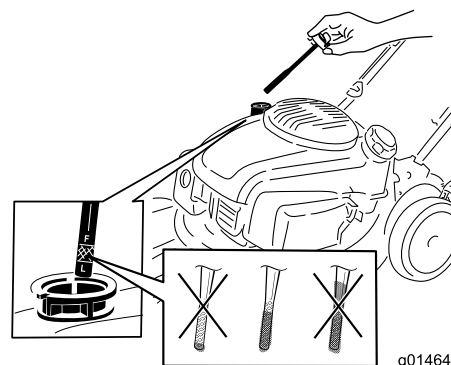

Figure 16
2. Remove the dipstick (Figure 16).
4. **Slowly** pour oil into the oil fill tube until the oil level reaches the Full line on the dipstick (Figure 16). **Do not overfill.** (Max. fill: 22 oz. (0.65 l), type: 10W-30 or SAE 30 detergent oil with an API service classification of SJ or higher.)
Note: Each time you check the oil level, remove the dipstick and wipe it clean, insert it into the oil filler neck (but **do not** screw it in), then remove it again and check the level (Figure 16).